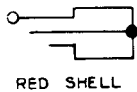

Fig. 5—329A Plug
2.04 329A: The 329A (Fig. 5) is a solid metal plug with a shell covering the plug body. The 329A plug is used in crossbar systems and in subscriber line overflow register circuits. The 329A plug is used with the 92- or similar-type jacks.